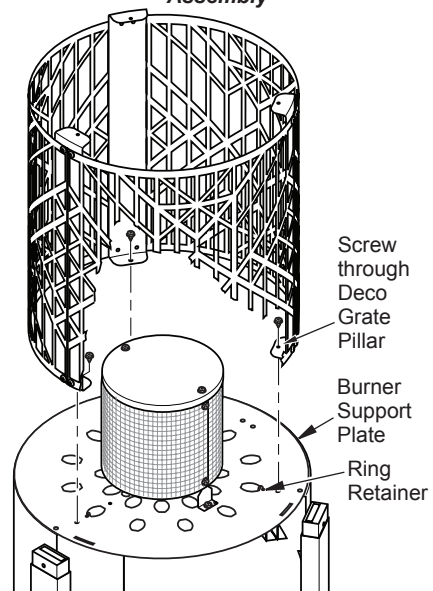

**Figure 5 - Assembling Emitter and Attaching Burner Support Plate**
7. Attach control valve bracket to table control panel with 2 screws (C). Attach control knob to control valve from outside of heater. See Figure 5.
8. Attach burner support plate to panels with 4 screws (C) (see Figure 5).
9. Attach emitter screens to emitter brackets with 4 screws (C) as shown in the Figure 5.
10. Attach emitter cap to emitter brackets with 2 screws (C) as shown in Figure 5.
11. Attach emitter assembly to burner support plate with 2 screws (C) (see Figure 5).